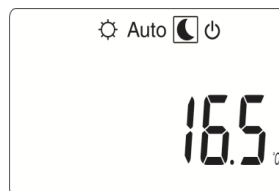

Fig. 14
- 1) *press the navigation button (▶) until the reduced operation symbol  is selected, as in Fig. 14;*